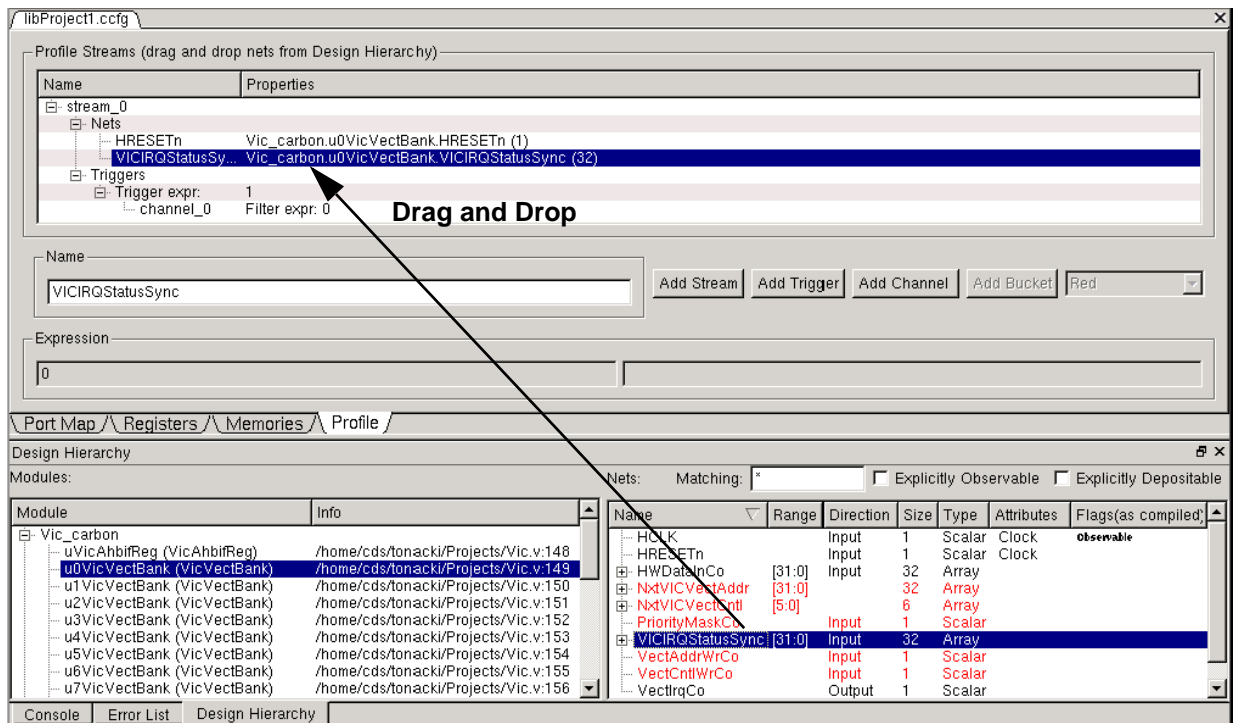

Figure 4-47 Drag Nets to Stream in Profile Tab
- Select nets, one at a time, from the *Nets* list, and keeping the left mouse button depressed, drag-and-drop the nets from the Design Hierarchy to the *Nets* section of the desired stream (see Figure 4-47).